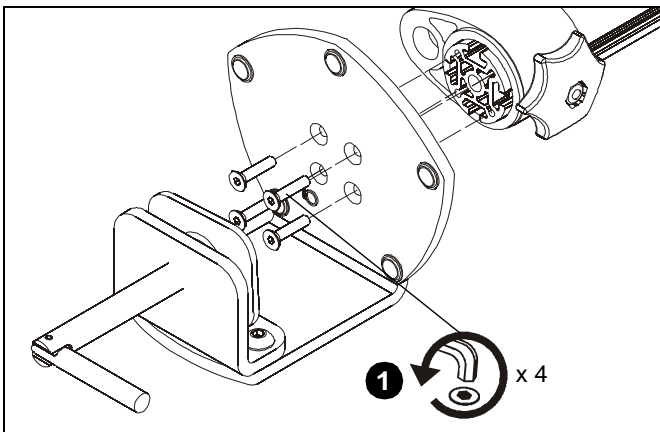

Figure 1
1. Remove desk clamp from mount by removing four flat head cap screws until clamp is disconnected from column. (See Figure 1)